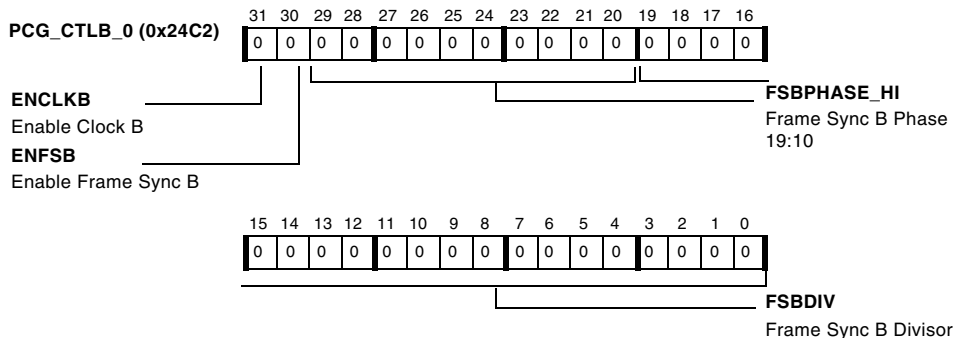

Figure A-58. PCG\_CTLB\_0 Register
- PCG\_CTLB\_0, described in Figure A-58